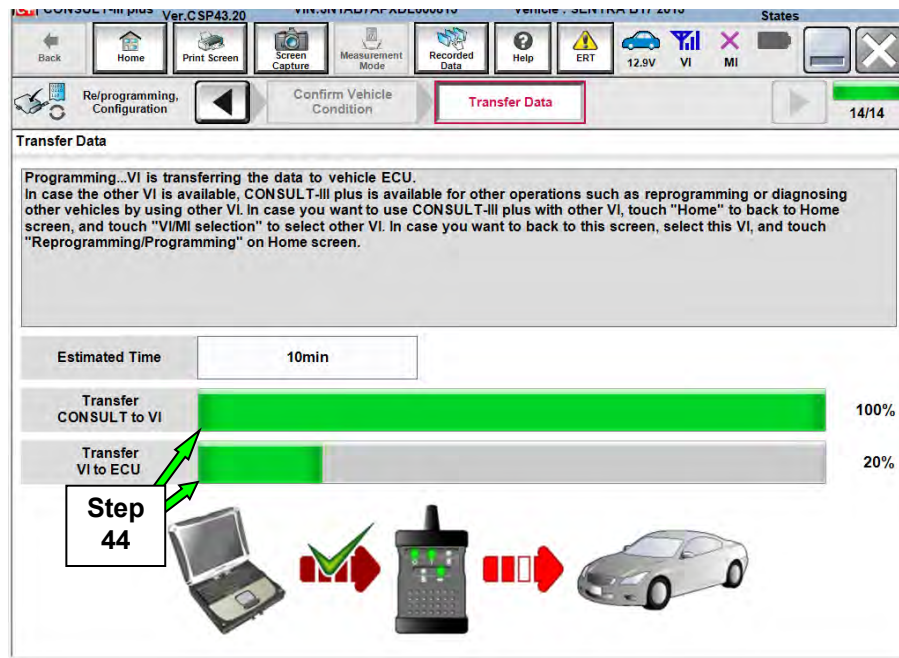

Figure 23
- Once authentication completes, TCM reprogramming will automatically begin and the screen in Figure 23 on the next page will be displayed.